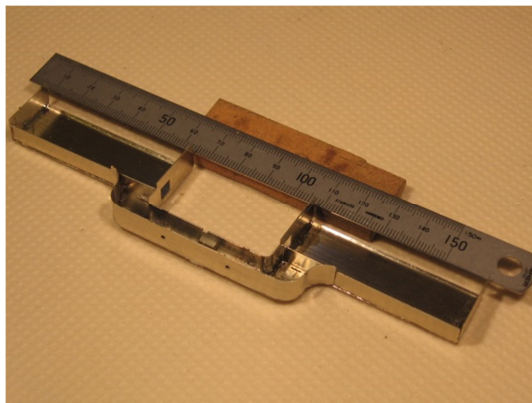

Fig. 22
51. Try not to touch the ends as the half etch detail is soon lost. Fig 22 & 23.